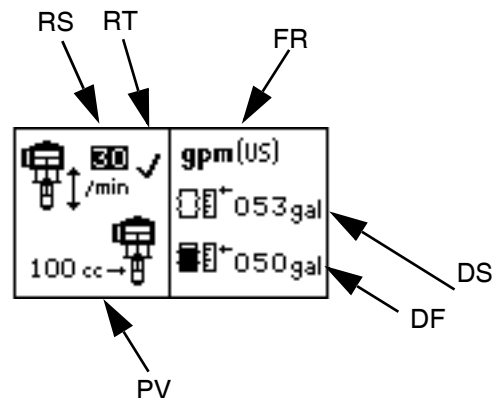

FIG. 7: Setup Screen 1
Use Setup screen 1 to set runaway cycle rate (RS), enable/disable runaway protection (RT), select pump volume per cycle (PV), select flow rate units (FR), enter drum size (DS), and enter drum fill volume (DF). See FIG. 7.
**NOTE:** Graco recommends setting runaway cycle rate (RS) to 60 or less. Choose a value that is just above the maximum cycle rate of the application.
**NOTE:** When runaway protection is enabled (RT), a will appear on the setup screen. See FIG. 7.
**NOTE:** To disable runaway monitoring, go to setup mode and set runaway value to 0 (zero) or toggle (RT) off. See FIG. 7.